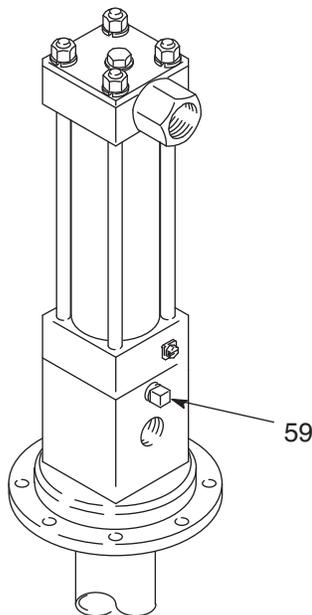

FIG. 3
- Drain Line: Remove the plug (59) from the pump adapter, and install a 1/8 diameter weep tube (B), ending in a waste container. Monitor the weepage of hydraulic fluid. If it seems excessive or increases suddenly, the reciprocator/pump seals may need to be changed. (FIG. 3)